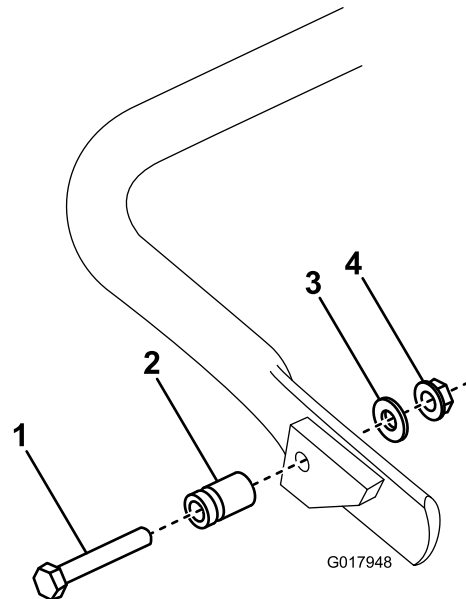

Figure 5
- On the GR1600 only**, connect the spring stud to the right hand side of the kickstand (Figure 5) using the bolt, washer, and flange-head nut provided.